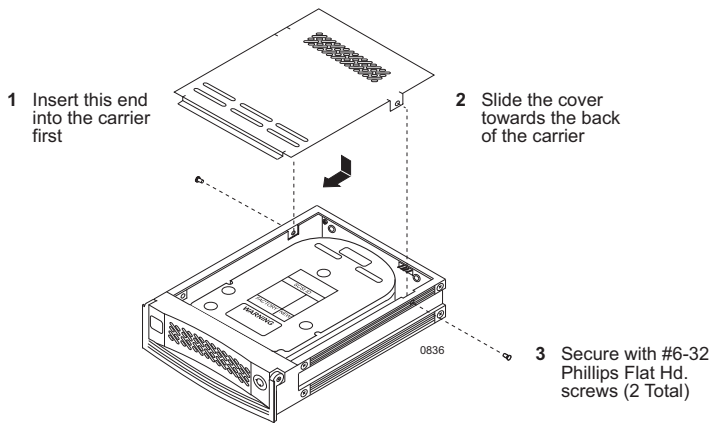

Figure 7: Drive Cover Installation
4. Install the provided drive cover (Figure 7).